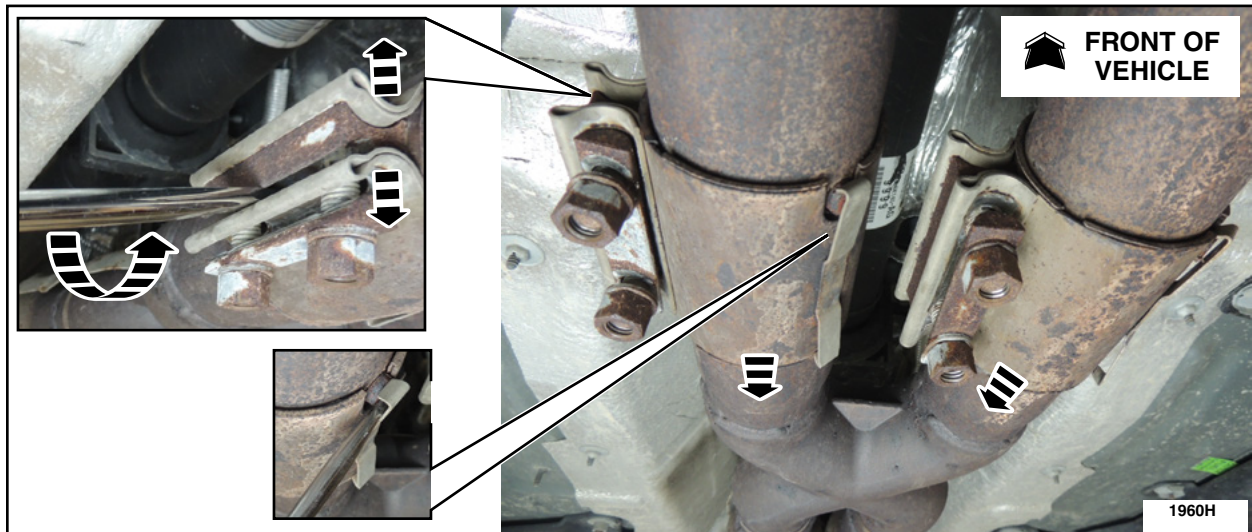

FIGURE 7
8. Release the exhaust clamp safety retainers and position the exhaust clamps rearward allowing the exhaust to hang. If there is too much tension to position the exhaust clamps rearward, use a flat head screwdriver to spread open the exhaust clamp. See Figure 7.
26. Position the exhaust clamps forward to their correct locations and engage the safety retainers. See Figure 7.